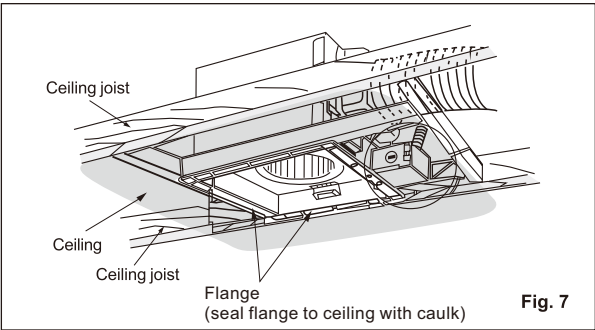

Fig. 7
- 5. Finish ceiling work by sealing gaps between fan and ceiling with caulk or approved sealant. (Fig. 7)